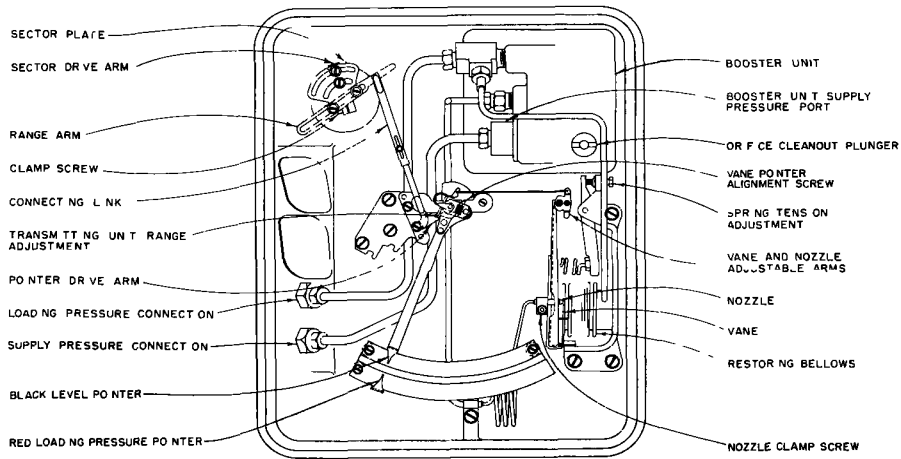

FIGURE 4 - Indicating and Level Transmitting Mechanism
2. Disconnect connecting link from range arm (Figure 4) so that black pointer may be moved freely by hand.
3. Set black pointer at midrange level on scale. Output loading pressure should read 15 psig. If not, adjust vane-pointer alignment screw (Figure 6) to position transmitting unit range arm so that left end of connecting wire is on extended centerline of black pointer. Reset pneumatic output to midrange value by adjusting spring tension adjustment (Figure 4).
(1) decrease range by turning transmitting unit range adjustment (Figure 4) counterclockwise, or
(2) increase range by turning transmitting unit range adjustment clockwise.
a. Check that nozzle is perpendicular to vane. If not, loosen nozzle clamp screw (Figure 4), and adjust nozzle position until vane is vertical.